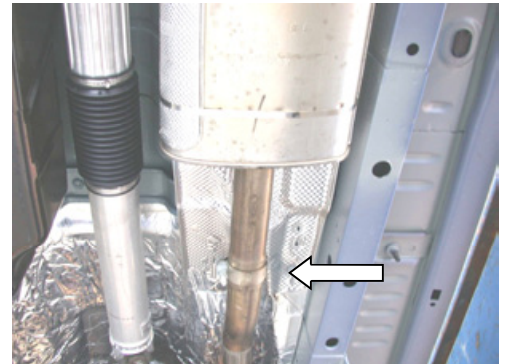

Figure 1
2. Loosen the clamp shown in figure 1 located just ahead the muffler assembly.